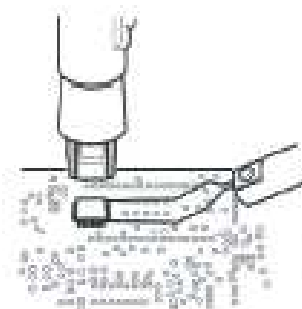

Fig. 4
2. Slip the pick-up puller (optional part) under the component lead. (Fig. 4) If the width of the component does not match the size of the pick-up, adjust the width of the pick-up by